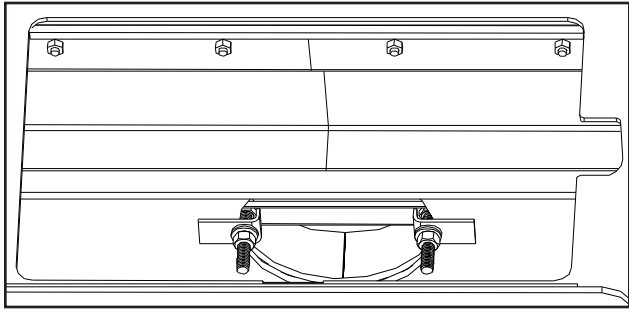
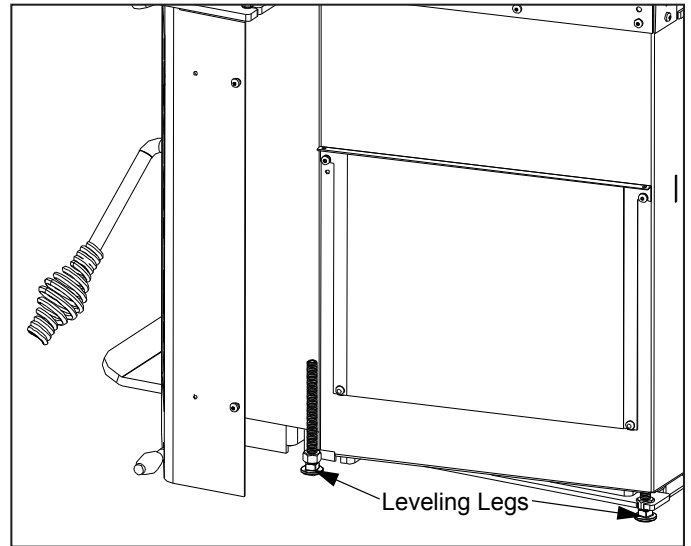

Figure 41: Removable flue collar in place.
Figure 42: Leveling legs.
- f) Place the Collar Puller, over the two bolts of the Flue Collar and pull it into place (see Figure 41). Ensure that the bolts are to the left and right of the hole. If they are not, the front secondary air tube will need to be removed in order to install or remove the C-Cast Ceramic Baffles.
- h) Re-install C-Cast Ceramic Baffles and the rear two (2) secondary air tube (see C-CAST CERAMIC BAFFLE INSTALLATION).
- 3.** There are four (4) leveling legs (shown in Figure 42), two (2) on each side, one at the back and one at the front of the unit. Adjust the legs using a $\frac{3}{8}$ " wrench to ensure the unit is stable.